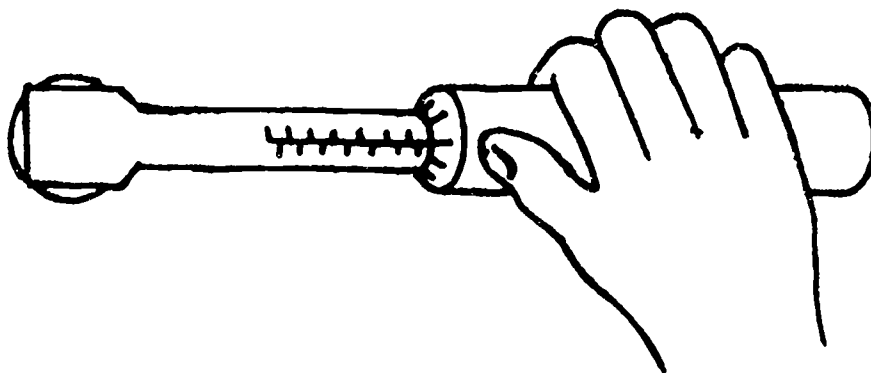

Figure 2.
8. Finger tighten all six (6) stud bolt and nut assemblies on the trainer until they are just barely snug - NOT tight.
c. Holding the torque wrench as shown in Figure 2 below, and using a very slow, very steady, smooth pull, pull the handle toward you until the wrench "breaks away." (It will feel as though the wrench has slightly slipped.) Do NOT pull beyond this point because the nut is now torqued to exactly 200 inch pounds.